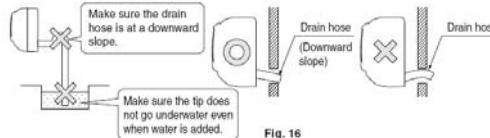

Fig. 16
- Watch out for the points in the figure 16 when performing drain work.